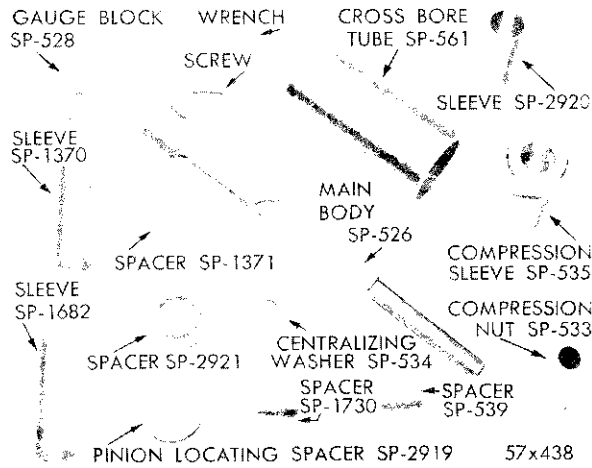
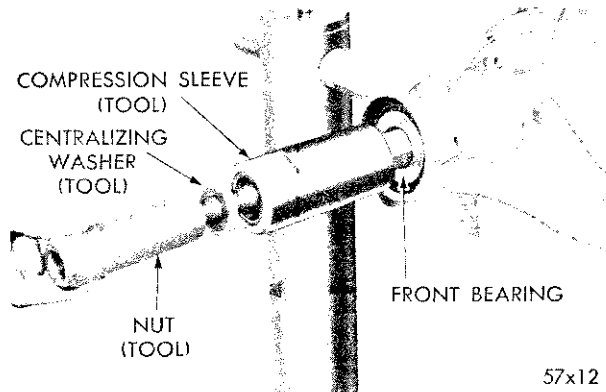

Fig. 17—Tool Set C-758-D3
Fig. 18—Compression Sleeve and Centralizing Washer in Position with Tool C-758-D3
- (1) Place the bearing cups squarely in position. Assemble Tool C-758-D3 (Fig. 17) by placing the spacer (SP-2919) followed by the rear pinion bearing cone over the main screw of the tool and inserting it into the carrier from the gear side (Fig. 18).